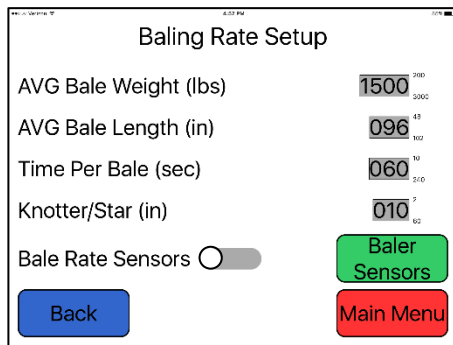

Figure 1
3. Press the SETUP MODE key. Turn bale rate sensors off (Figure 1). Make sure the AVG Bale Weight is 1500 lbs (680kg) and the AVG Baler Length is 96" (243cm), Time per bale is 60 seconds, and press the MAIN MENU key to return to the opening screen.